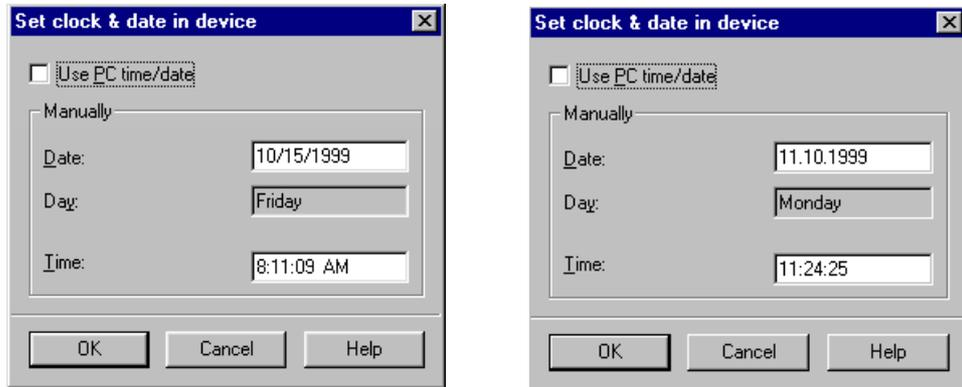

Figure 7-31 Dialog Field: **Set clock & date in device**
- Edit the input fields **Date** and **Time**. The format depends on your regional settings of the PC. See Figure 7-31.